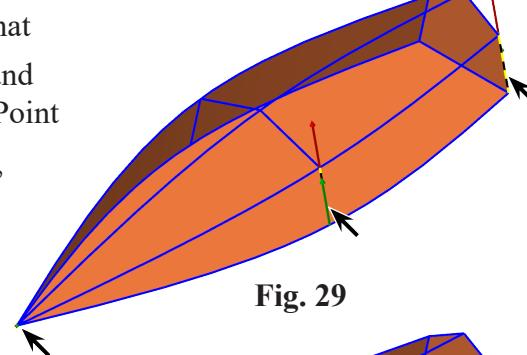

Fig. 29
Step 8. Repeat on starboard side. That is, click Single  (S) and selects port rib lines. Click Point  (T) and select Point, Fig. 29.